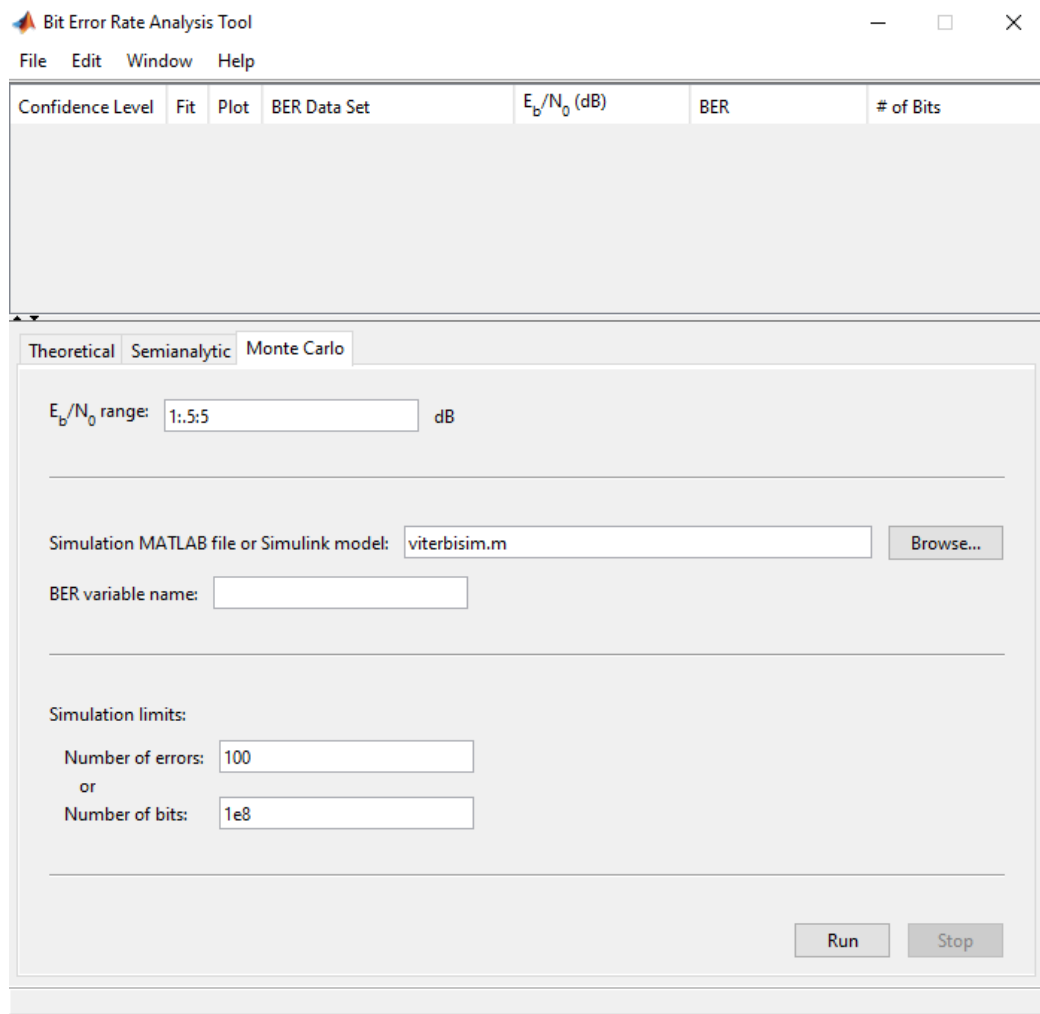

Figure 6 - Monte Carlo
Click on the **Monte Carlo** tab, as shown in Figure 6.
- The E_b/N_0 range specifies the signal to noise ratio and, if necessary, the interval at which the noise should increase. It should be entered in the format **Signal:Interval:Noise**. So for example, the default value shown in Figure 6, **1:0.5:5**, would be a signal value of **1** and the noise level would be raised to **5** in intervals of **0.5**.